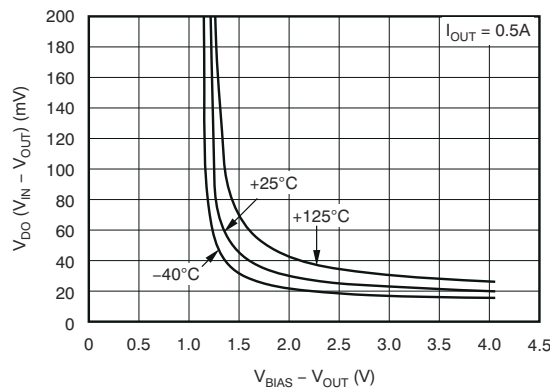

图 5-29. Dropout Voltage vs ($V_{BIAS} - V_{OUT}$) and Temperature (T_J)
- (1) Adjustable devices tested at 0.8 V; resistor tolerance is not taken into account.
- (2) Dropout is defined as the voltage from V_{IN} to V_{OUT} when V_{OUT} is 3% below nominal.
- (3) 1.62 V is a test condition of this device and can be adjusted by referring to Figure 5-29.